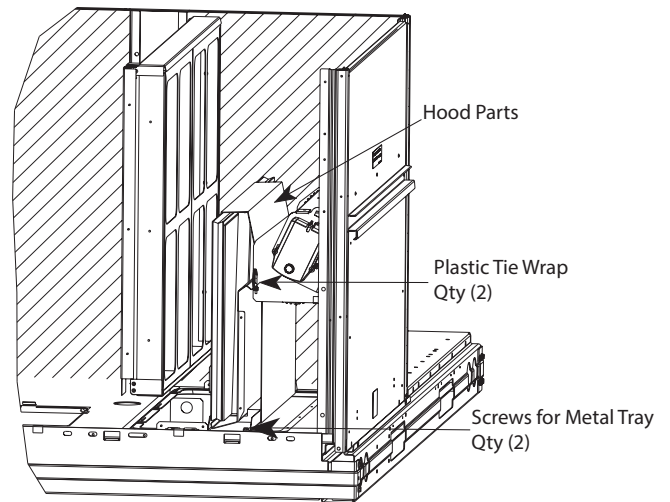

Fig. 16 — Economizer and Two-Position Damper Hood Parts Location
3. Locate the (2) screws holding the metal tray to the basepan and remove. Locate and cut the (2) plastic tie-wraps securing the assembly to the damper (see Fig. 16). Be careful to not damage any wiring or cut tie-wraps securing any wiring.